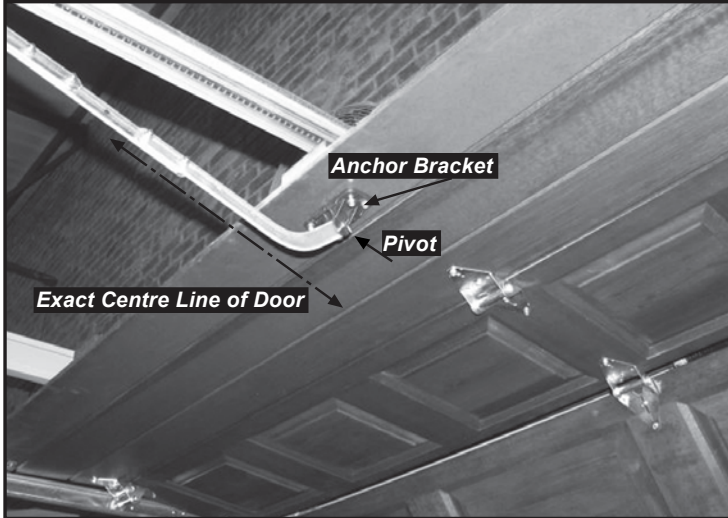

Figure 7
1. Position the Anchor bracket on the door centerline as in figure 7. Please be assured that if required this bracket can be installed the other way around without affecting the functionality of your operator. It is purely a matter of choice and available space.